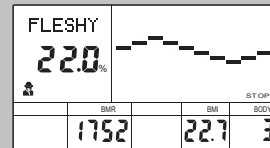

fig 40
1. During the body fat measurement, place both your palms on the contact pads. The test result are: FAT%, BMR(Basal Metabolic Rate), BMI(Body Mass Index), BODY and body shape.(See fig 40)